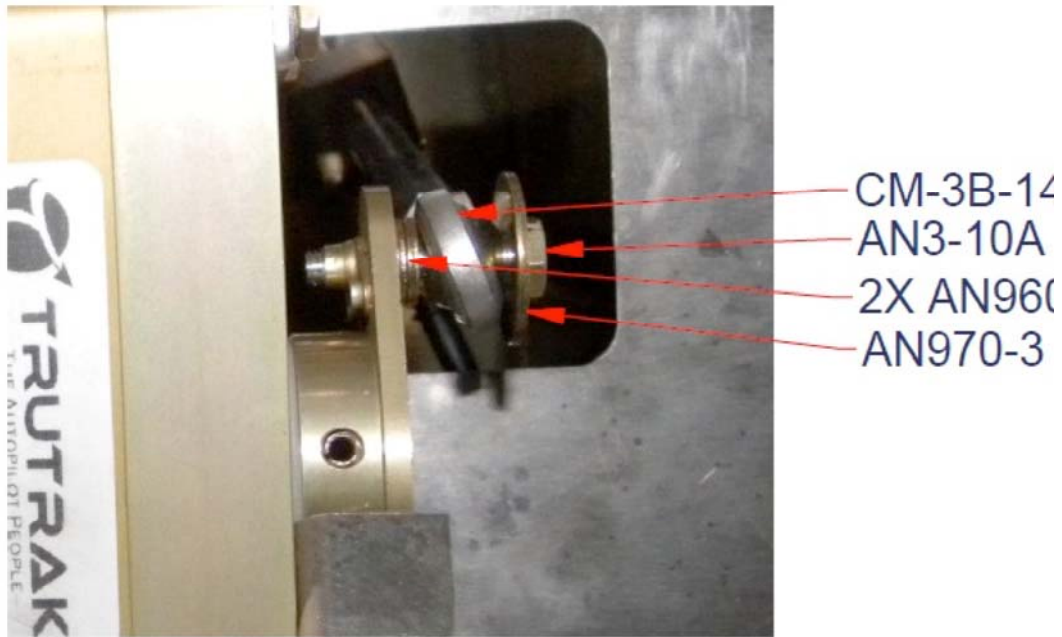

Figure 3-12
- (1) The Cessna 177 Pitch Push Rod Assembly (P/N 7200-098) is a factory built assembly and should not be disassembled.
- (2) Fully thread an AN315-4 nut on each of the CM-3B-14 Rod End Bearings (P/N 2510-052).
- (3) Thread one of the CM-3B-14 Rod End Bearings (P/N 2510-052) half way into each end of the Cessna 177 Pitch Push Rod Assembly (P/N 7200-098).
- (4) Attach the forward end of the Cessna 177 Pitch Push Rod Assembly (P/N 7200-098) to the pitch servo arm (P/N 7200-091) as shown in Figure 3-12. Torque AN3-10A bolt to 20-25 in-lb.